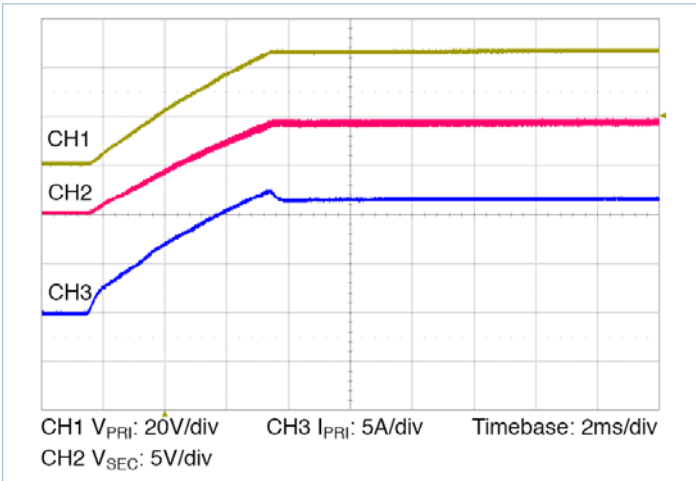

Figure 13 — Start up from application of V_{PRI} ; VC pre-applied $C_{SEC} = 1000\mu\text{F}$
- **Normal operation (VC applied prior to the source voltage):** In this case the controller is active prior to the source ramping. When the source voltage is applied, the VTM module load voltage will track the source (See Figure 13). The inrush current is determined by the source voltage rate of rise and load capacitance. If the VC voltage is removed prior to the primary voltage reaching 26V, the VTM may shut down.